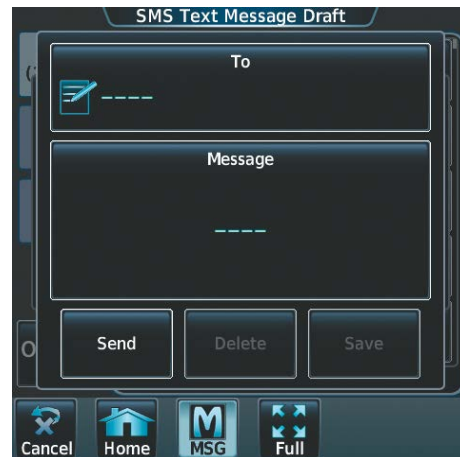

Figure 8-93 Touch 'To' Window
- 3) Touch the **Draft New Message** Button. The SMS Text Message Draft Screen is displayed as shown in Figure 8-93. The Draft New Message option is also available from within the **Drafts** and **Outbox** Tabs.